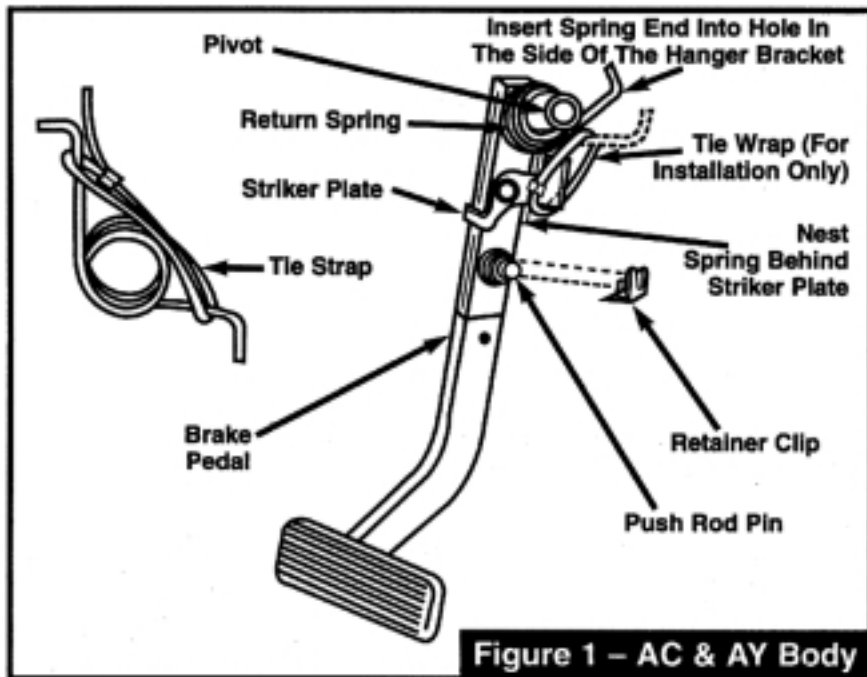
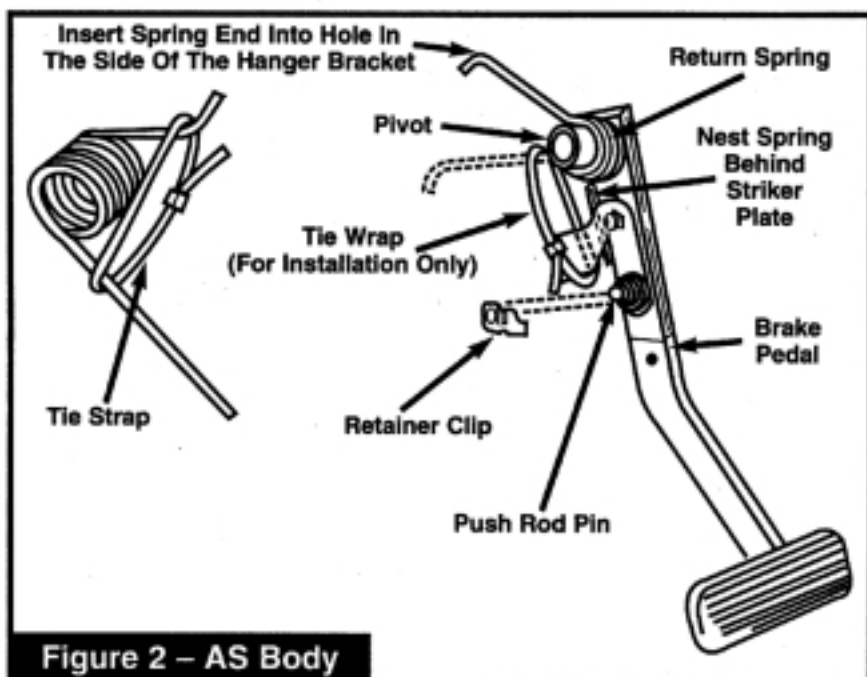

Figure 1 – AC & AY Body
Figure 2 – AS Body
4. Lubricate inside and around the coils of the pedal return spring with a multi-purpose grease and install the pedal return spring on the pivot. (For AC/AY bodies see Figure 1, for AS bodies see Figure 2.) A tie wrap secured around the free leg of the spring and the brake pedal striker plate may be used to preload the spring for easier installation.